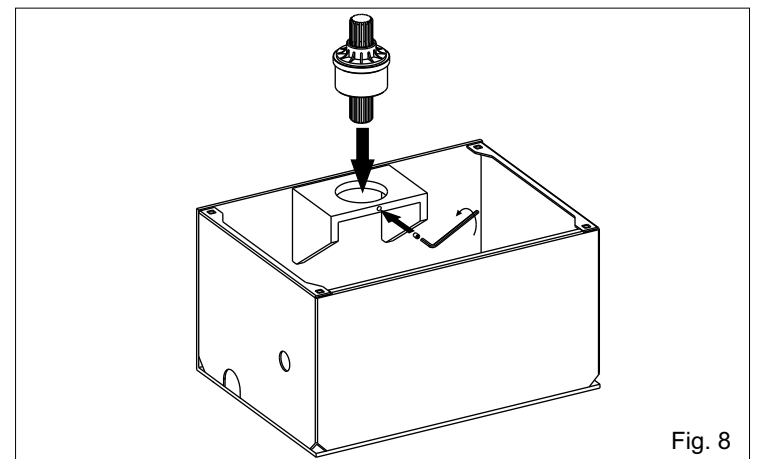

Fig. 8
**2.4.** Put the jointed splined shaft into the upper hole of the carrying box and fix it with the provided screw (Fig. 8)